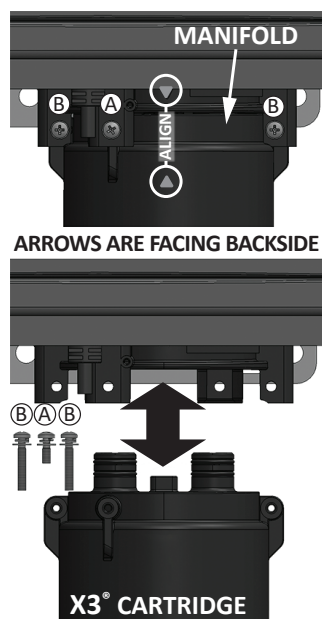

Figure 20 - X3® Cartridge Installation
- 2 Locate the three (3) screws provided in the hardware bag on the top of the water heater carton. Set the one (A) screw (M4-12mm) and two (B) screws (M4-25mm) aside in a safe place (Figure 20).
NOTICE: The X3® cartridge is keyed to only install in one direction. Align the ▲ on the X3® cartridge with the ▼ on the manifold (arrows will be back facing for TI & TO series heaters). When inserting the X3® cartridge, push up until the screw holes align. Some resistance is normal. See Figure 20 for reference.
- 4 Remove the two (B) screws and the one (A) screw securing the X3® Cartridge to the manifold located on the underside of the water heater cabinet. Set the screws aside in a safe place for re-installation. Note the order of the screws when removing them. Reference Figure 20.